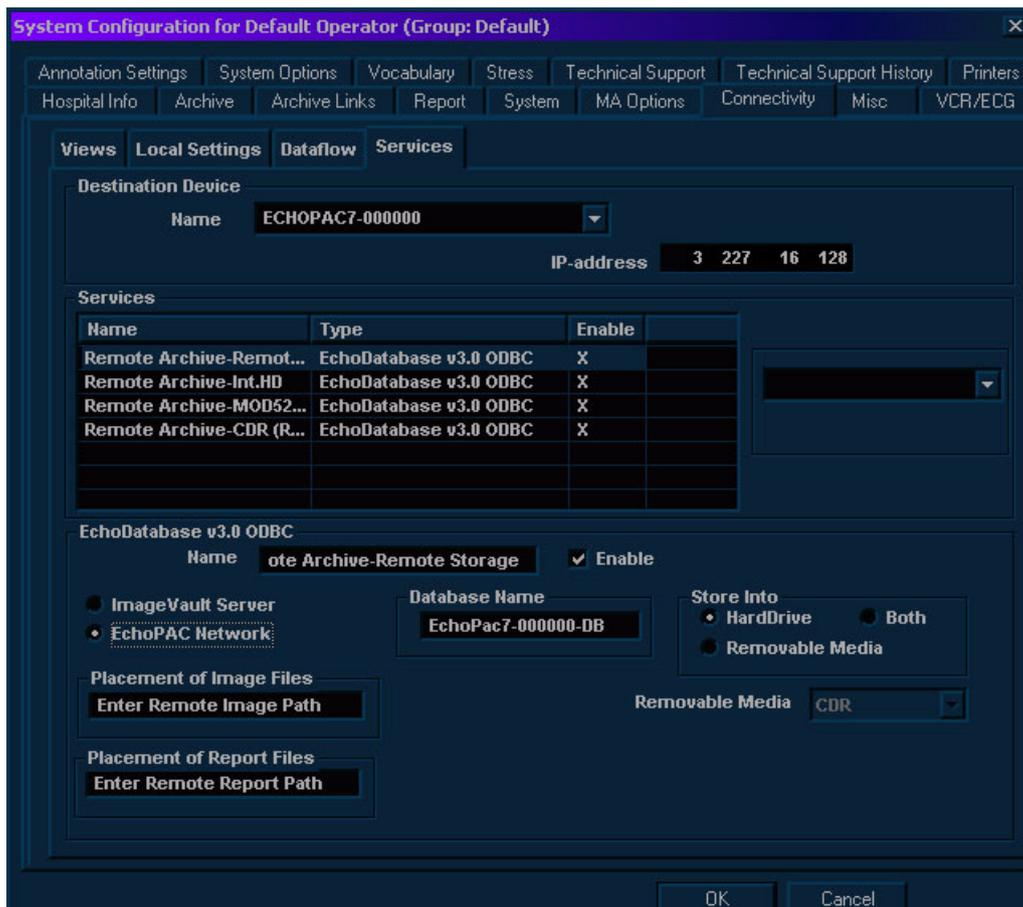

Figure 3-49 Services Tab - EchoPAC Expanded
10) If *EchoPAC Network* is required, make sure that the **EchoPAC Network** checkbox is *selected*, as shown in Figure 3-49, above, then proceed as follows: